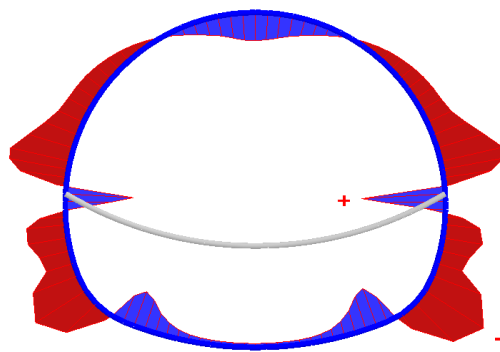

Figure 6.12 Resulting bending moments in the NATM tunnel
- From the *Forces* menu select the *Bending moment M* option. The result, scaled by a factor of 0.5 is displayed in Figure 6.12.